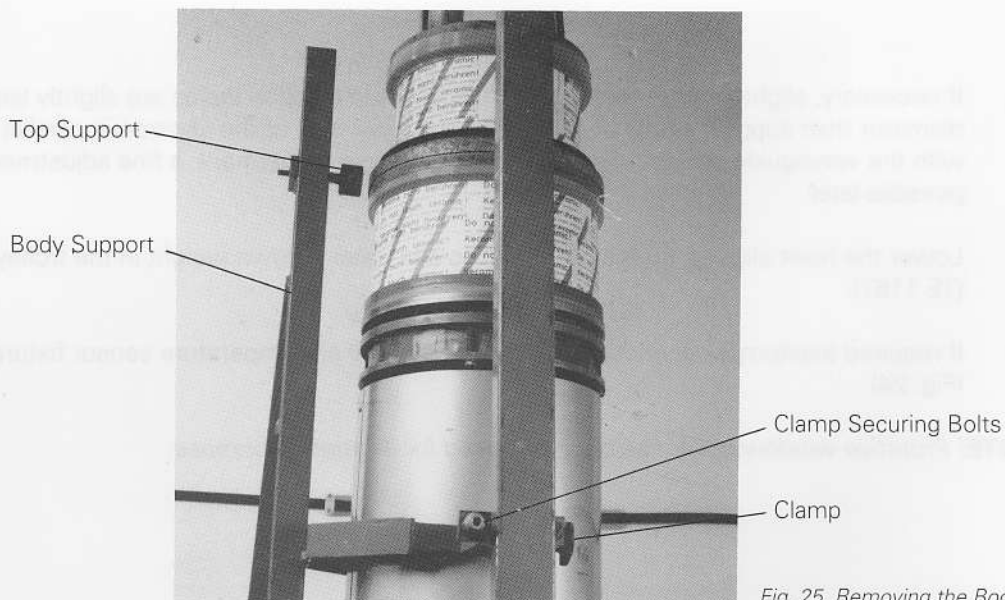

Fig. 25. Removing the Body Supports (1)
- (a) Slacken the two top supports (Fig. 25).
- (c) Unscrew and remove the four clamp securing bolts (Fig. 25).